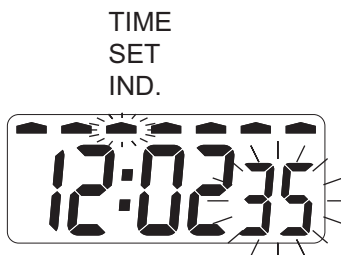

Fig. 9
6. From the ALARM SET mode depress C once to go to the TIME SET mode with the TIME SET indicator and the SEC. digits blinking, as shown in Fig. 9.